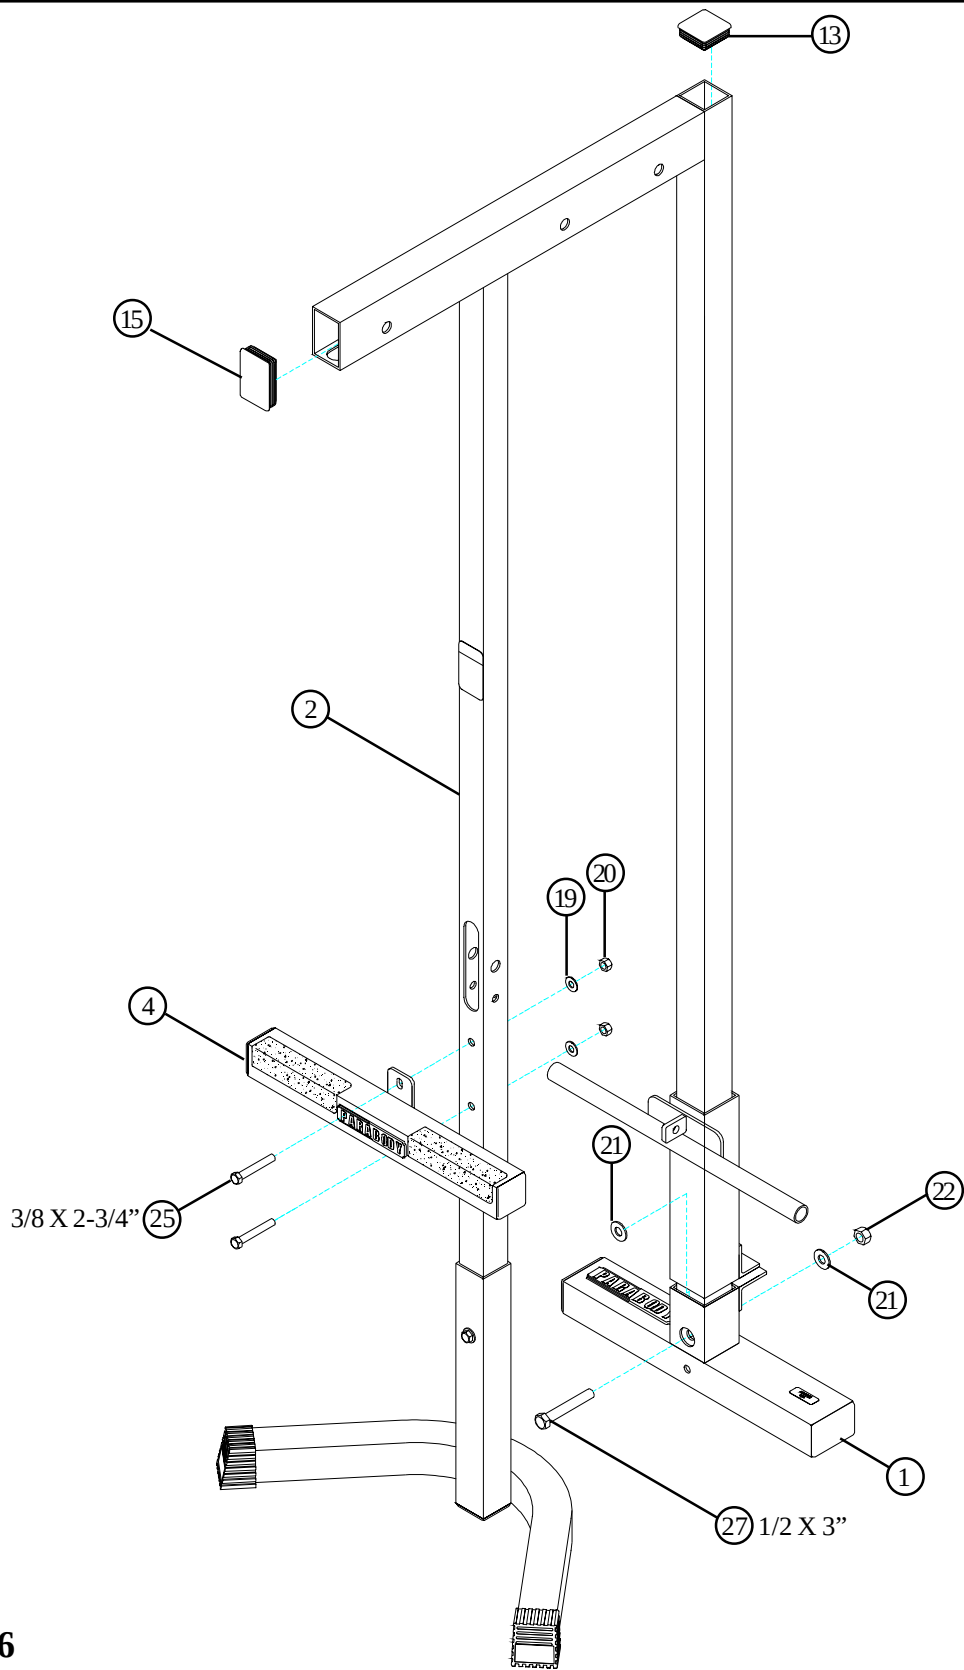

FIGURE 6
- **SECURELY** assemble the BASE (1) to the UPRIGHT (2) using one 1/2 X 3" BOLT (27), two 1/2" WASHERS (21) (**slide front washer INSIDE of tube**), and one 1/2" LOCK NUT (22). See FIGURE 6.
- Insert one 3 X 2" END CAP (15) and one 2" SQ. END CAP (13) into the ends of the UPRIGHT (2) as shown in FIGURE 6.
- **SECURELY** assemble the CROSS BRACE (4) to the UPRIGHT (2) using two 3/8 X 2-3/4" BOLTS (25), two 3/8" WASHERS (19), and two 3/8" LOCK NUTS (20). See FIGURE 6.